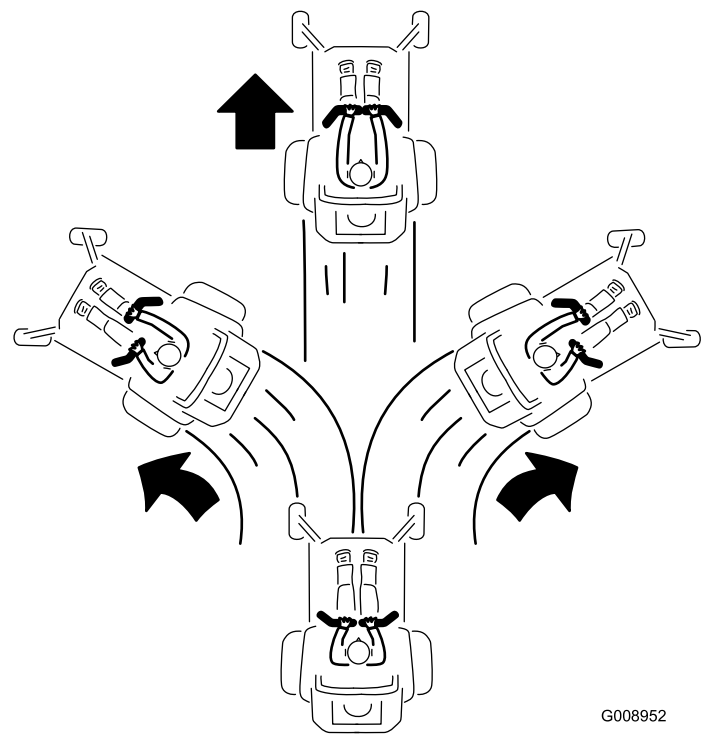

Figure 27
3. To go forward, slowly push the motion-control levers forward (Figure 27).